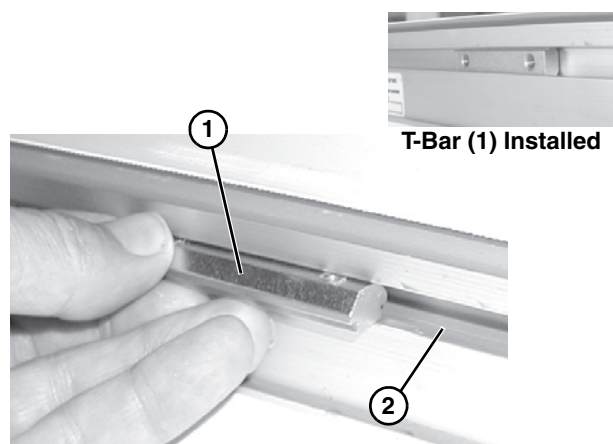
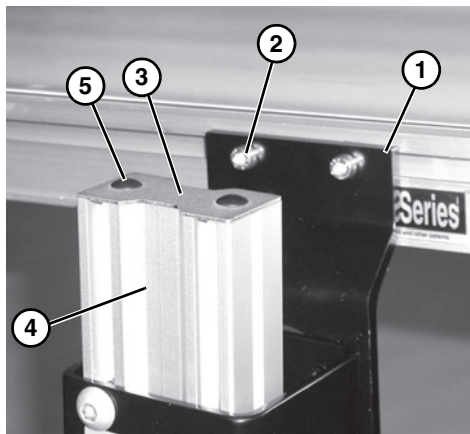

Figure 11
Figure 12
15. Install one t-bar (**Figure 11, item 1**) in bottom t-slot on each side of conveyor (**Figure 11, item 2**).
16. Attach pivot bracket (**Figure 12, item 1**) to t-bar (**Figure 11, item 1**) with two socket head screws (**Figure 12, item 2**). Do not tighten screws.
18. Tighten four socket head screws (**Figure 12, item 2**) to 124 in-lb (14 N-m).
22. Attach tube end cover (**Figure 12, item 3**) on stand leg (**Figure 12, item 4**) with two plastic tree rivets (**Figure 12, item 5**).